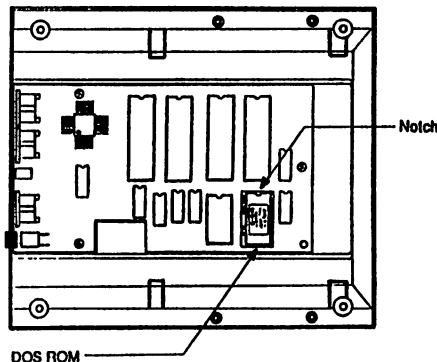

Figure 2: 1541-II DOS ROM LOCATION
9. Locate the DOS ROM on the 1541-II circuit board using the diagram in Figure 2 below:
VERY IMPORTANT: Ensure that the notch on the JiffyDOS ROM is positioned as shown in FIGURE 2.
14. With all pins on the JiffyDOS ROM properly aligned with the socket and with the ROM notch facing as shown in Figure 2, carefully press the 1541-II ROM into the socket using finger pressure until it is fully seated.